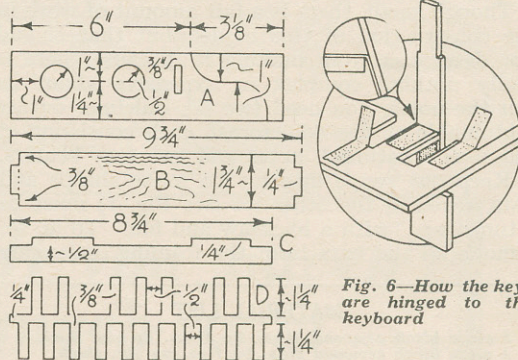

Fig. 5—Details of various parts
At this juncture, make the casing. The sides (A) and front board (B) are detailed at Fig. 5, same—like all the rest of the casing—being cut from $\frac{1}{4}$ in. plywood or fretwood. When the sides are cut out, select the front board (B) and glue its tenons to the mortises of the sides.
The upright end will be made as in Fig. 5, and fixed to the base strips exactly as in the previous example.